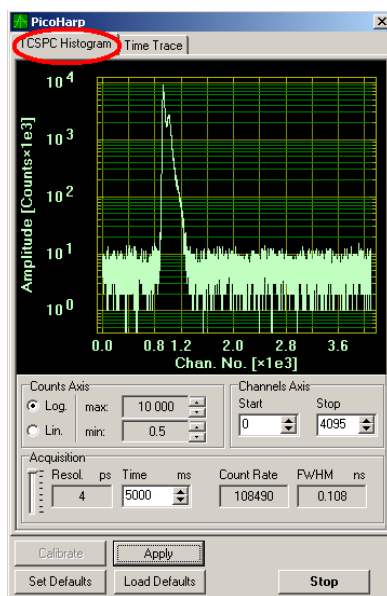

Fig. 3.12: IRF oscilloscope window, recorded with a PH300, MPD SPAD and PQ laser source.
6. Select in the oscilloscope window the **TCSPC Histogram - tab** as shown in Fig. 3.12. Start the oscilloscope measurement by clicking the Start - icon. The amplitude axis can be adapted by scrolling with the mouse wheel button in case the cursor is placed on the oscilloscope window. The shape and width of the IRF curve is very much dependent on the laser and detector configuration.